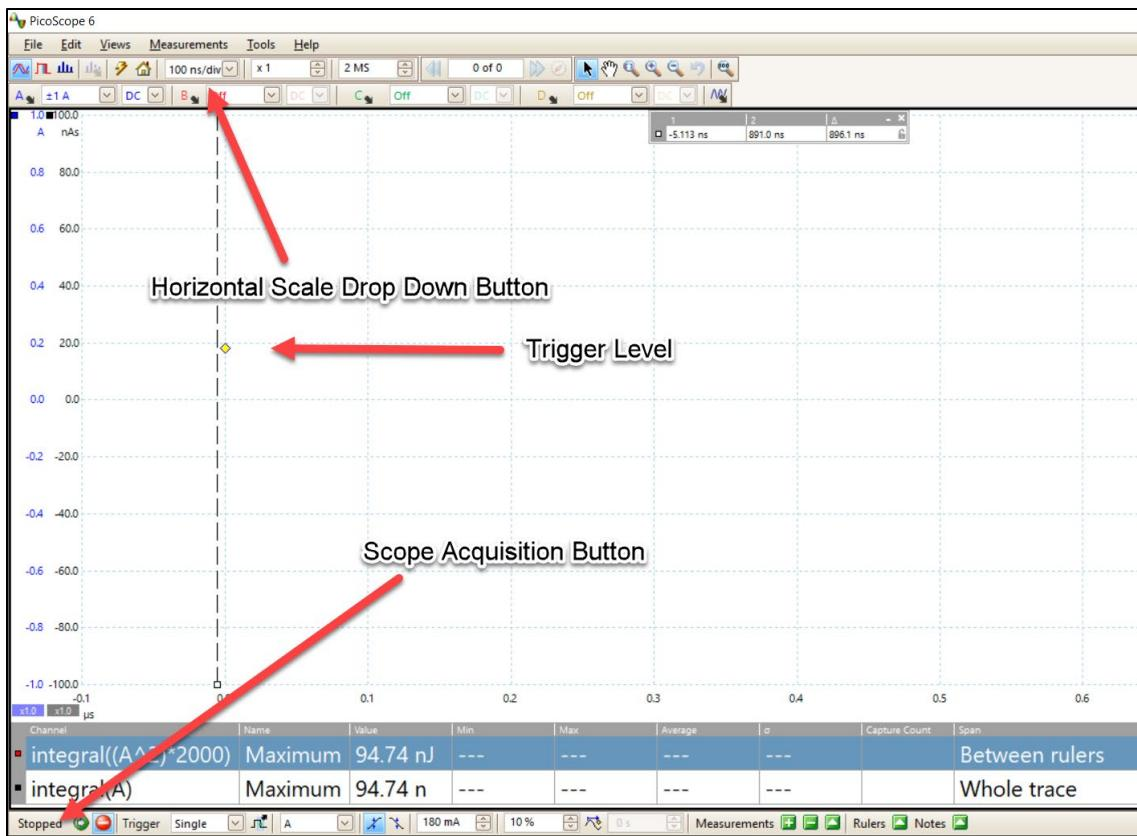

Figure 7. Screenshot of the PicoScope® 6 Software with the “Waveform Verification Setup file” open.
10. In the PicoScope® software, if needed, move the yellow trigger icon above the scope's zero line (0.2A) on the left vertical scale (Figures 7 and 8).
11. Ensure that the scope horizontal scale is set to 100 ns per division (Figures 7 and 8).
13. Click the “Stopped” button at the bottom left hand portion of the screen (PicoScope 6) or the top left hand portion of the screen (PicoScope 7) to place the scope in “acquisition” mode. The wording “Stopped” will change to “Running” (Figures 7 and 8).
9. Click the "**Stopped**" button at the bottom left hand portion of the screen to place the scope in "acquisition" mode. The wording "**Stopped**" will change to "**Running**" (Figures 7 and 8).